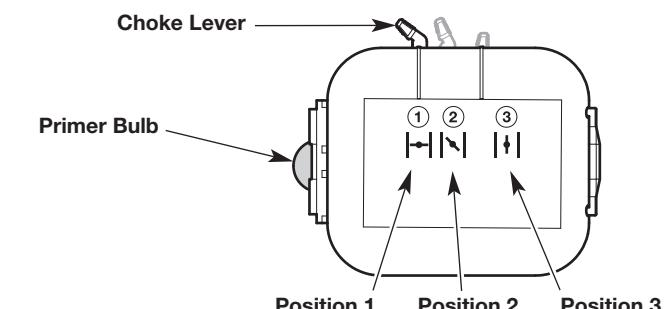

Fig. 11
1. Slowly press and release the primer bulb **10 times** (Fig. 11). If fuel cannot be seen in the primer bulb, press and release the primer bulb until fuel is visible.
2. Move the choke lever to **Position 1** (Fig. 11).
6. Move the choke lever to **Position 2** (Fig. 11).
9. Move the choke lever to **Position 3** (Fig. 11). Allow the engine to warm up for an additional 60 seconds. The unit may be used during this time.
**IF...** the engine hesitates, return the choke lever to **Position 2** (Fig. 11) and continue the warm-up.